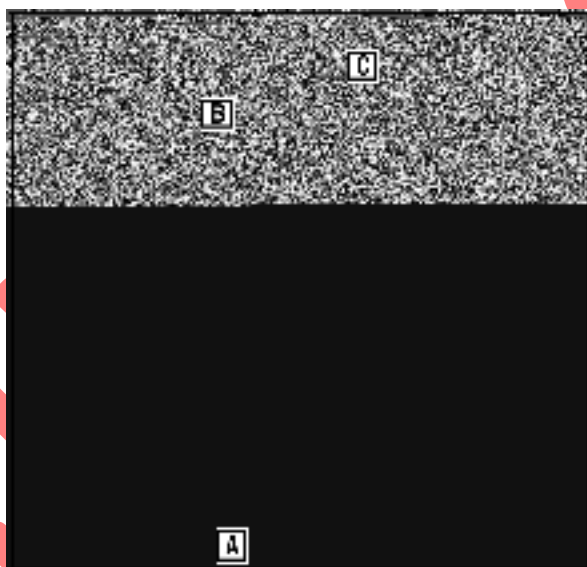

Fig. 87
Place emulsion tube (B) in fuel pick up first, then install fixed main jet ([A] Fig. 87).
Install the emulsion tube (B) with jet screwdriver #19062, (C) and install the fixed main jet ([A] Fig. 87).